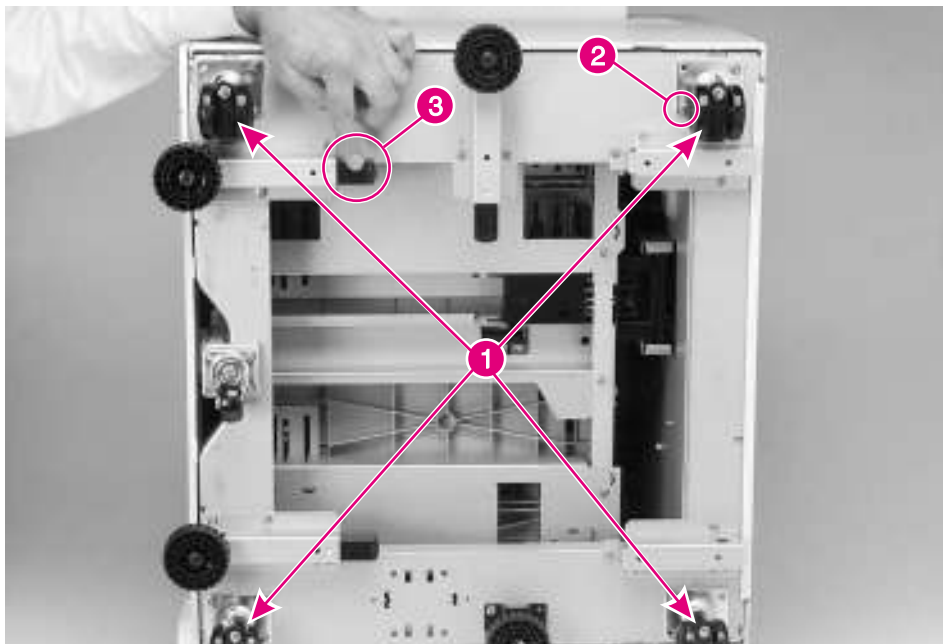

Figure 6-81 2000-sheet Input Tray Casters
- 3 Locate the 4 Casters, 1 on each corner of the chassis (Figure 6-81, callout 1).